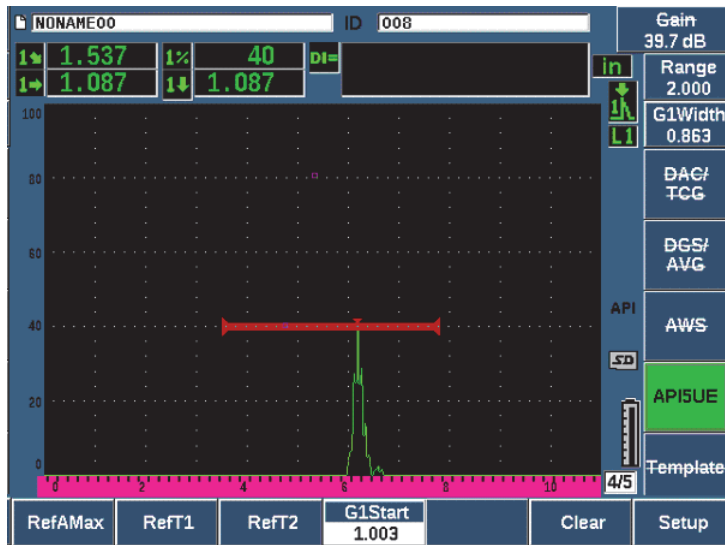

Figure 11-27 Storing the  $T_2$  point
10. Press **RefT2** (P3) to collect the 6 dB drop position of the trailing peak and assign this value as  $T_2$  (see Figure 11-27 on page 276).